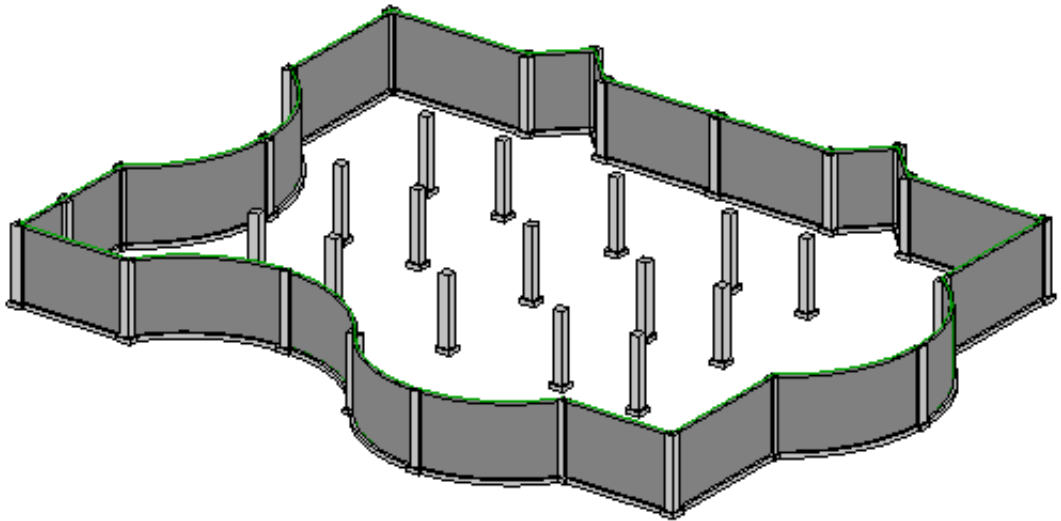

Figure 7–57
15. Each column should have a isolated footing under the pier as shown in Figure 7–57.